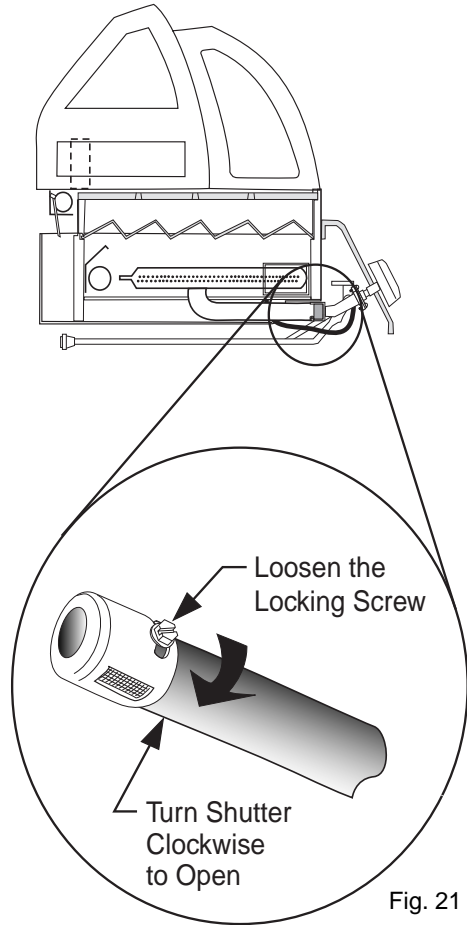

Fig. 21
**NOTE :** It may be necessary to adjust the burners periodically, to compensate for variables in gas characteristics. If you notice that the burner flame pattern is irregular (see Figs. 9a, 9b & 9c) it may be necessary to adjust the air shutter opening at the front of the venturi tubes. The shutters are accessible under the control panel at the front of the Grill (see Fig. 21).